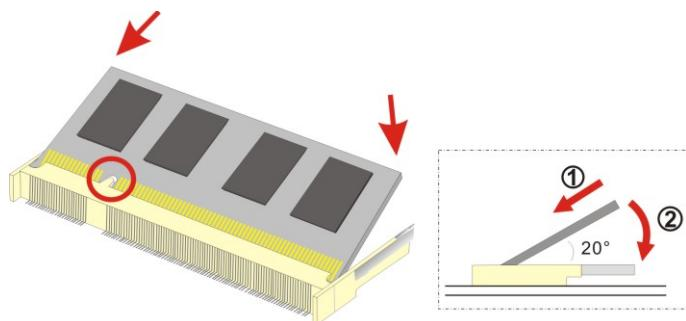

Figure 4-4: SO-DIMM Installation
To install a SO-DIMM into a SO-DIMM socket, please follow the steps below and refer to **Figure 4-4**.
Step 3: **Insert the SO-DIMM.** Push the memory in at a 20° angle. (See **Figure 4-4**)
Step 4: **Seat the SO-DIMM.** Gently push downwards and the arms clip into place. (See **Figure 4-4**)